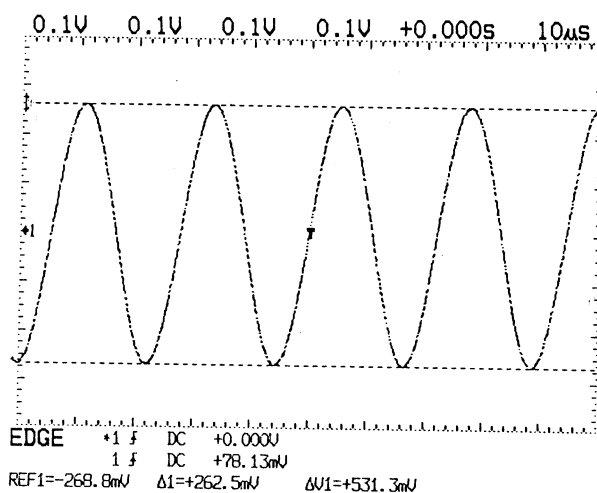

Fig. 6-44
1) In case of voltage measurement cursors (V CURSORS) (See Fig. 6-44)